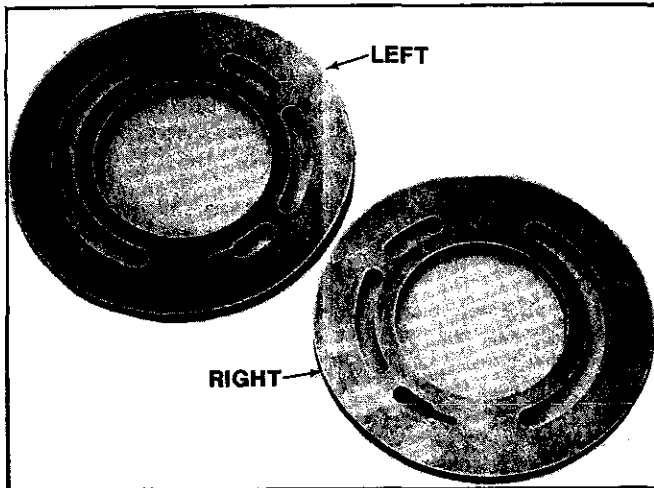

Figure 22. Wafer plates showing right and left hand.
2. Assemble wafer plate (34) over the bearing race and locating pin (35) with wear surface away from valve block (32). Determine from the model code which wafer plate is used. See Figure 22.